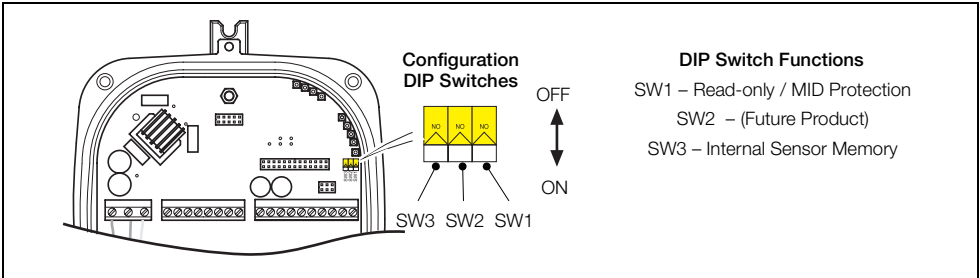

Fig. 4.19 Configuration DIP Switches
- For high integrity/security installations, set DIP switch SW1 to the 'ON' (Read-only) position – see Fig. 4.19, page 30.
- Align the transmitter cover with the housing and tighten the four cover screws (C) carefully.
- For high integrity/security installations or where MID is required, fit anti-tamper seals to the security fixtures (D).
Note. If this screen is displayed on an integral transmitter, check that DIP switch SW3 is in the 'ON' position (refer to Fig. 4.19, page 30).
To correct this condition, set DIP switch SW3 to the 'OFF' position (refer to Fig. 4.19, page 30).